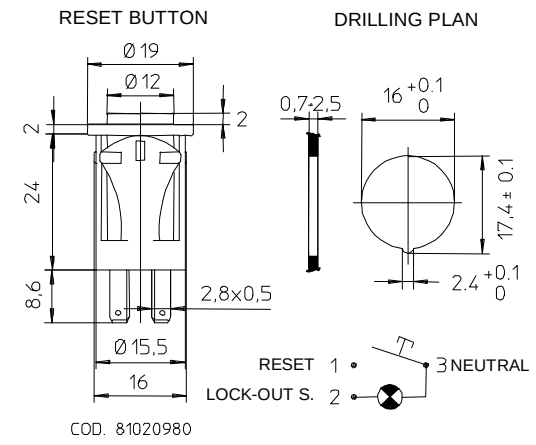
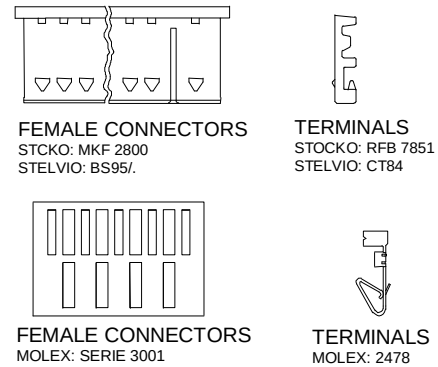

Fig.2
Fig.3
- (1) This contact is not isolated from the main supply voltage by reinforced isolation, therefore the relay contact is not suitable to supply SELV circuits – Safety Extra Low Voltage.
- (2) Standard connectors are Stelvio/Stocko models, see Fig.2.
- (3) The controllers in compliance with EN298:1993 can be employed exclusively as spare parts.
- (4) The controller shows on the label option “#” and the note “EN 298:2003 compliant”.
- (5) Flame failure during TS causes spark restoration.
The control units can be supplied complete with connectors and light reset push-button (see Fig.2 and Fig.3).